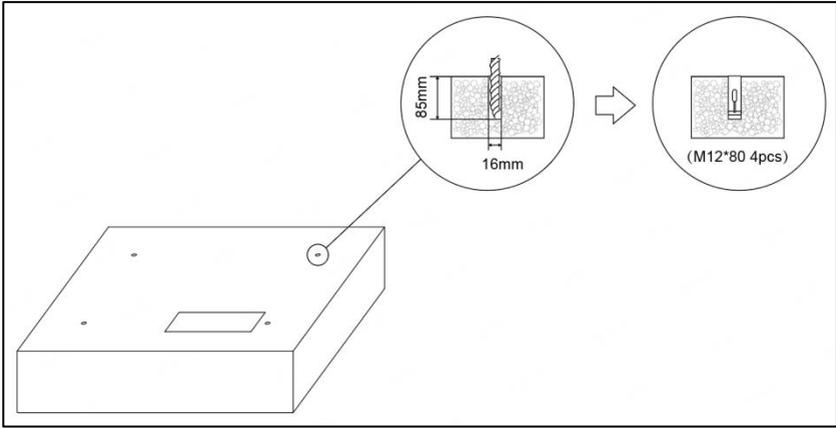

Figure 2.5.7 Setting of installation bolts
② Knock four M12*80 mm expansion bolts in hole using hammer, then loosen the bolt part so that the expansion rod is inserted into the foundation installation hole. If the installed bolts have been reserved in construction process, the next step could proceed. If the installed bolts aren't reserved, it is necessary to set the installation bolts as shown in Figure 2.5.7 as per the above steps.